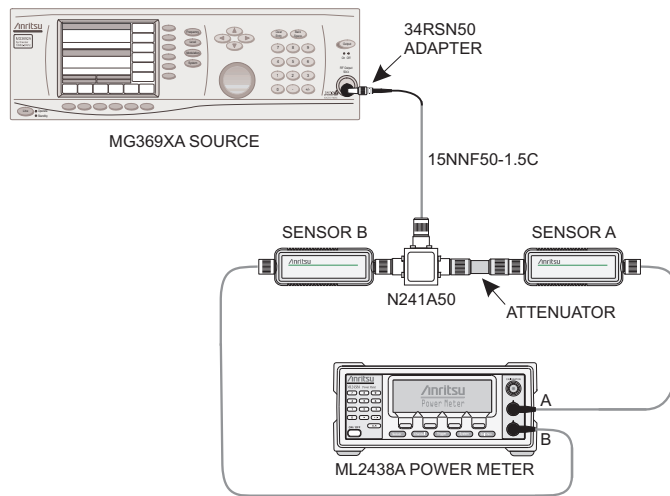

Figure 2. Test Setup
9. Connect the power splitter to the MG3692A output and the Sensor B to one of the power splitter outputs. Install the 10 dB Fixed Attenuator to the other power splitter output and then connect Sensor A to the end of the Attenuator. Refer to Figure 2.